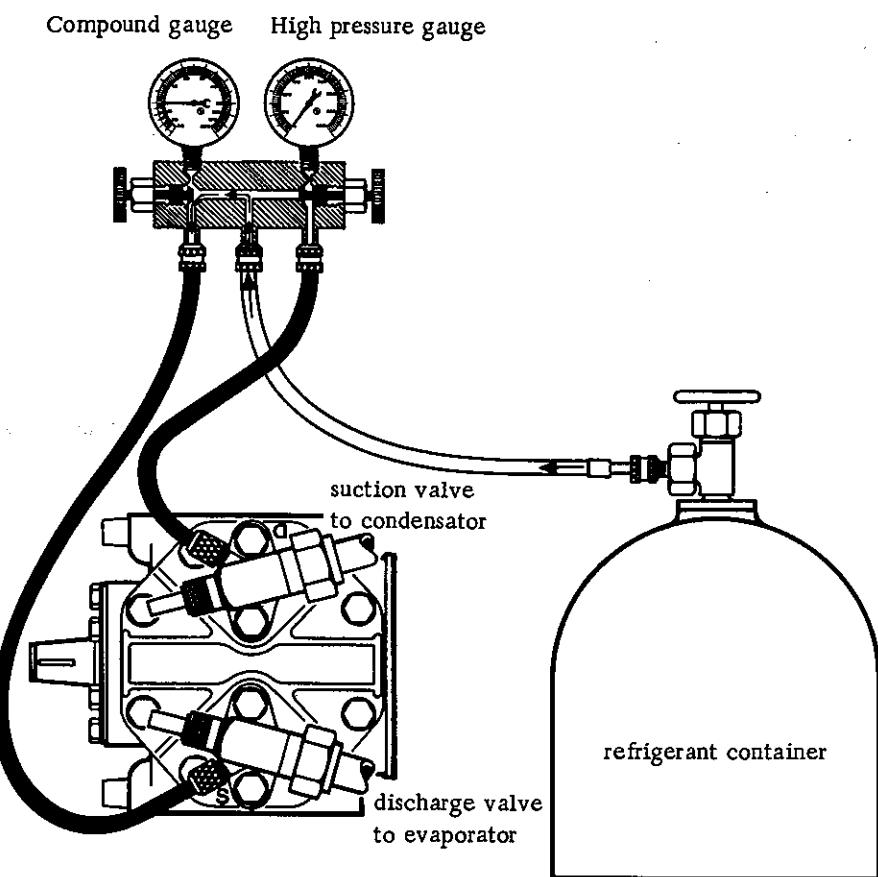

Fig. 10
1. Shut off vehicle engine, connect hoses of manifold gauge set to compressor (refer to Fig. 10). Connect